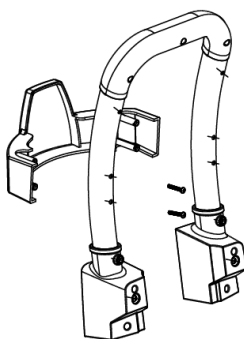

Fig.2
2. ASSEMBLING THE HOSE GUN ON THE UPPER HANDLE (Fig.2)